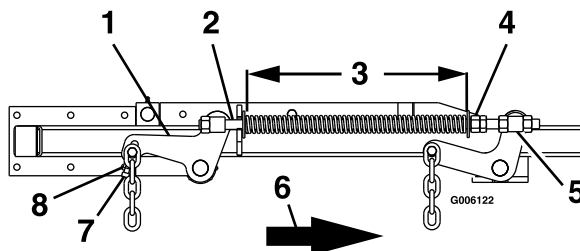

Figure 18
5. Raise the deck to the 5 inch (12.7 cm) height position (also transport position) and take all force off of the two large deck lift springs by loosening the nuts at the front of each spring (Figure 18).
6. Lower the deck to the 1 inch (2.54 cm) height position. Force the left rear deck support arm downward about 1/4 inch (6.4 mm) to get the deck to rest at the 1 inch height position. Place locking pliers between the rear swivel and spring stop to hold the deck in this position (Figure 18).
12. Raise deck lift lever to the 5 inch (12.7 cm) cutting height position (Figure 10). Adjust spring compression until proper distance is obtained between the two large washers (Figure 18). Adjustment is made by turning the nut at the front of each spring (clockwise will shorten the spring, counterclockwise will lengthen the spring). Lock in position with jam nuts.